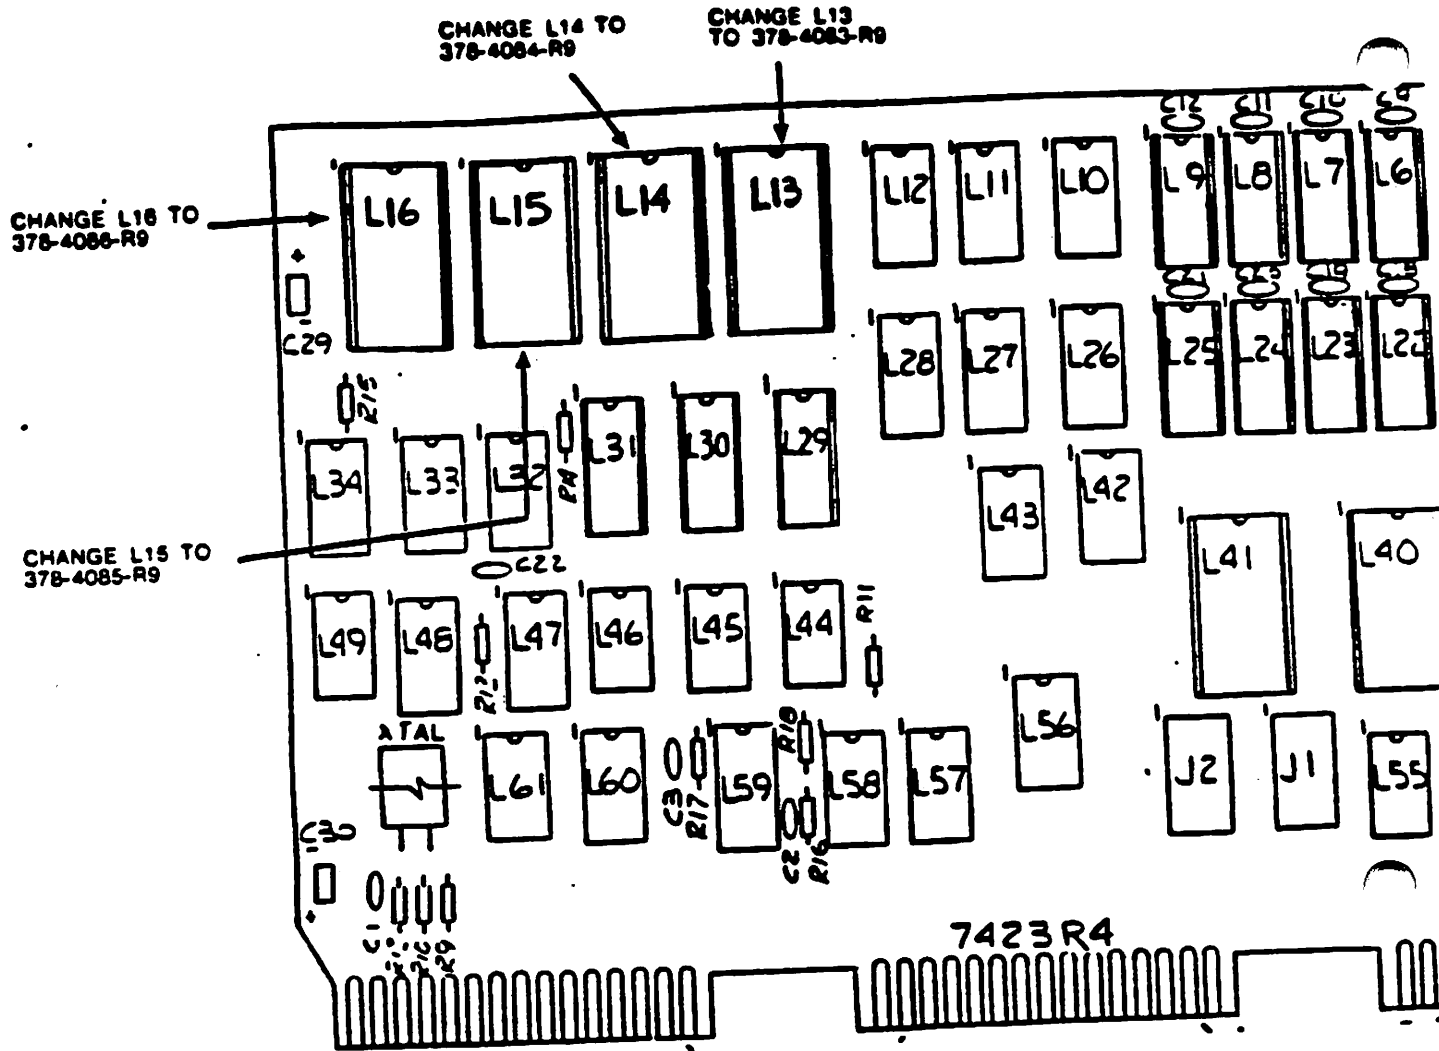

FIGURE 2: 210-7423-A EPROM LOCATIONS
**D. Refer to Figure 2. Change the four EPROM's on the 210-7423-A PCB as follows:**